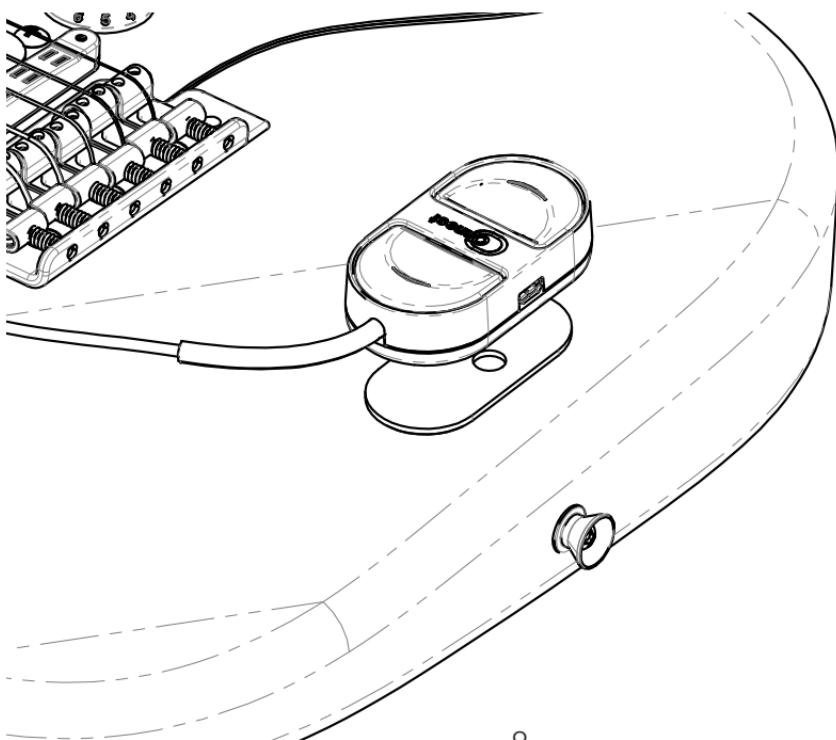

Fig 2
5. Carefully position the controller at your ideal position, and then press the controller and controller mount against the guitar top. (Fig 2)